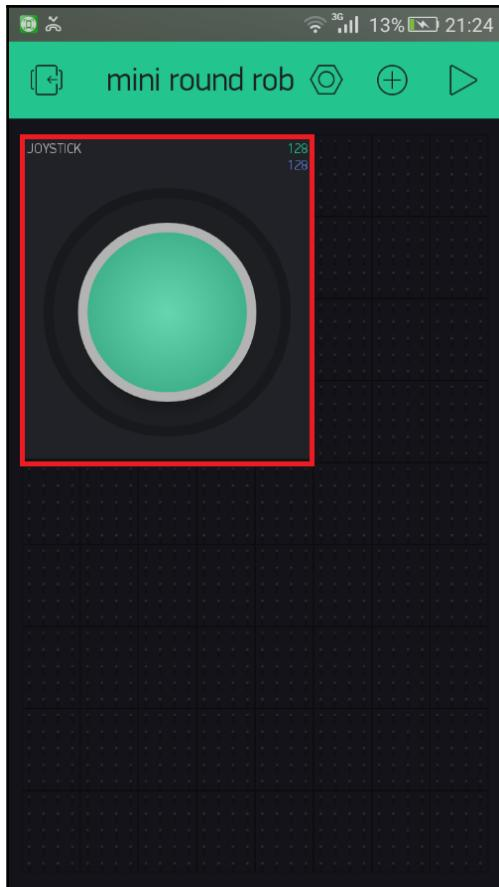

Figure 3.5: The Mini Round Robot app created in chapter 2, Building a Mini Round Robot with Original ESP8266
1. Open the Mini Round Robot Blynk app (*Figure 3.5*). Switch the app to the **EDIT** mode if it is in the **PLAY** mode: